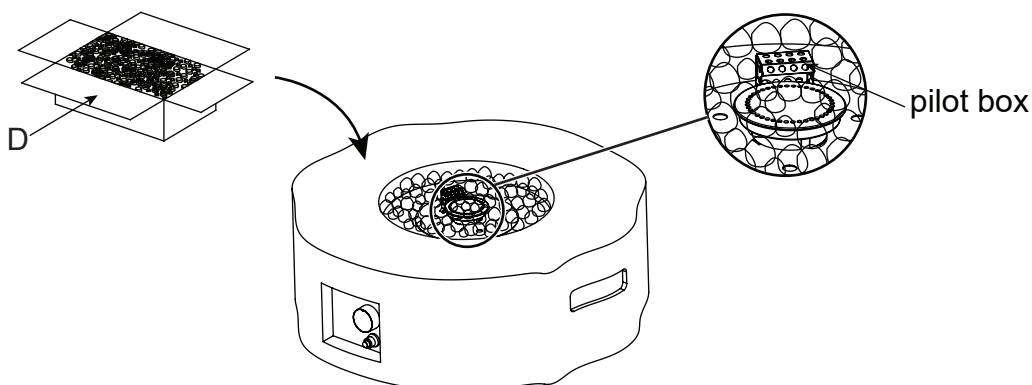

Figure 2
2. Open the box of lava rocks, put the lava rocks (D) into the fire bowl of the fire table (A) (See Figure 2). A gas fire pit requires 4.18 lbs lava rocks.